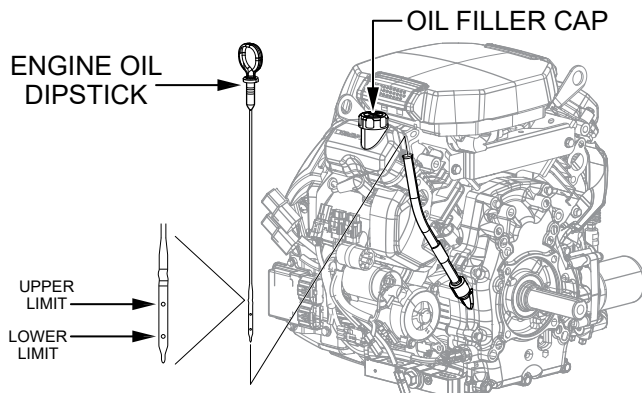

Figure 31. Engine Oil Dipstick And Filler Cap
2. Pull the **engine oil dipstick** (Figure 31) out of its holder and wipe it with a clean rag.
4. Determine if engine oil is low. Oil should be between the **upper and lower marks** (Figure 31) on the dipstick.
5. If the oil is below the lower mark on the dipstick, remove the **oil filler cap** (Figure 31) and add engine oil up to the upper mark on the dipstick. Refer to Table 7 for recommended oil viscosity.
1. Remove the **oil filler cap** (Figure 31) to allow the oil to drain easily.